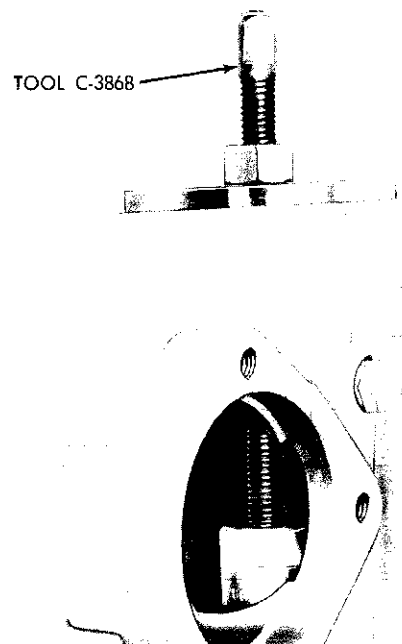

Fig. 8—Removing Lower Bearing Cup
(11) Remove the wormshaft oil seal from the wormshaft bearing adjuster, by inserting a blunt punch behind the seal and tap alternately on each side of the seal until the seal is driven out of the adjuster.
(12) Remove the wormshaft spacer and upper bearing cup in the same manner. However, this must be done carefully to avoid cocking the bearing cup and distorting the adjuster counterbore.
(13) Remove the lower cup if replacement is necessary by positioning the locking puller head jaws of puller Tool C-3868 (Fig. 8) behind the bearing cup and expanding the puller head by pressing down on the center plunger of tool. Withdraw the bearing cup by turning the puller screw nut in a clockwise direction while holding the center screw.
(14) Wash all parts in clean solvent and dry with compressed air.
(15) Test the operation of the ball nut assembly on the wormshaft. If the ball nut does not travel smoothly and freely on the wormshaft and there is roughness or binding, the assembly must be replaced.
(16) Extreme care is necessary when handling the aluminum worm bearing adjuster to avoid damaging the threads. It is equally important to avoid damaging